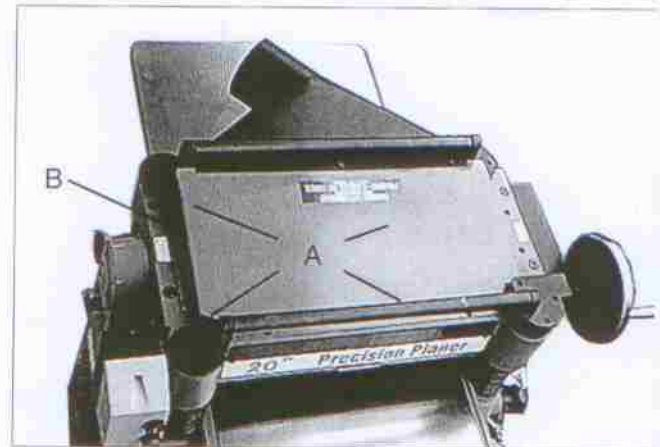

Fig. 20
2. Remove the six screws (A), and remove the upper cover (B) as shown in Fig. 20.
- 2.Remove six screws(A),and the upper cover(B) as shown in Fig.20.